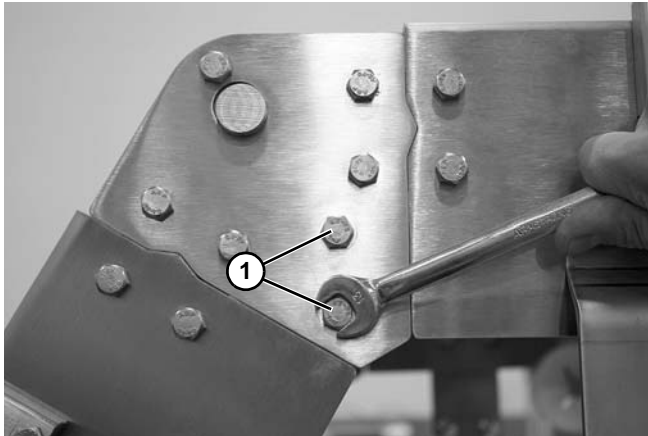
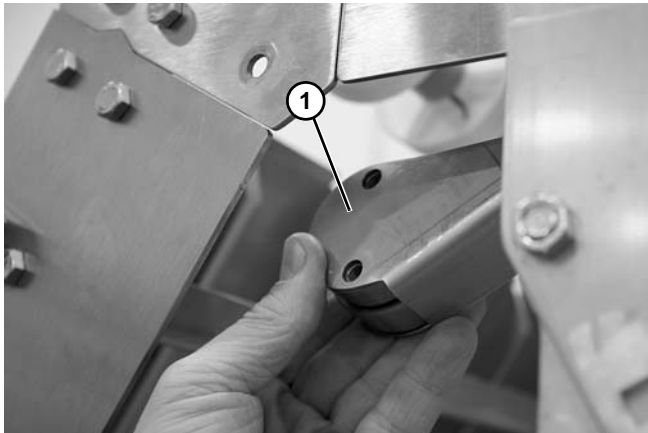

Figure 126
Figure 127
1. Remove screws (**Figure 126, item 1**).
2. Remove bearing guard (**Figure 127, item 1**) with bearing.
1. Remove screws (**Figure 126, item 1**) and bearing guard (**Figure 127, item 1**).